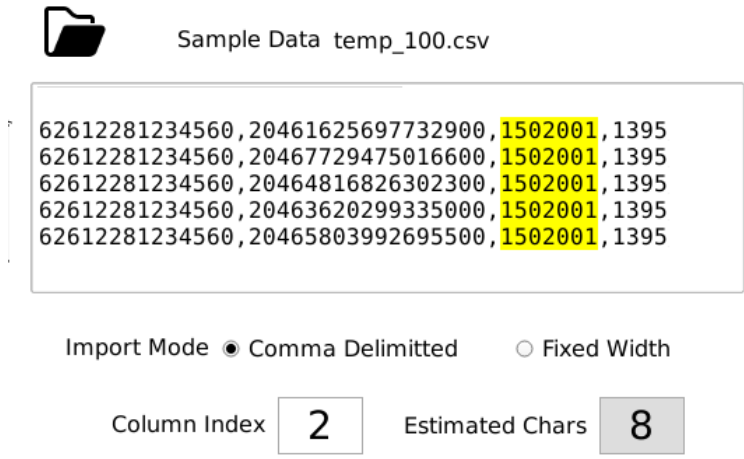

Figure 26: DB- Text, Comma Delimited
**Fixed Width:** In which two parameters is provided to extract the data from the *current record*: starting index and length of data. With this method, comma will be a regular printable character. (Figure 26)
**Comma Delimited:** In which the whole External Data Record is divided by comma into fields (columns). Then a COM-Text object requires only an Index parameter to point to the target field. Use escape sequence '\,' to print comma. The 'Estimated chars' parameter is hint for the printer to predict the size of dynamic object before the actual data is available. This parameter is not used to cut-off the data. This behavior is similar to DB-Text in Figure 26.